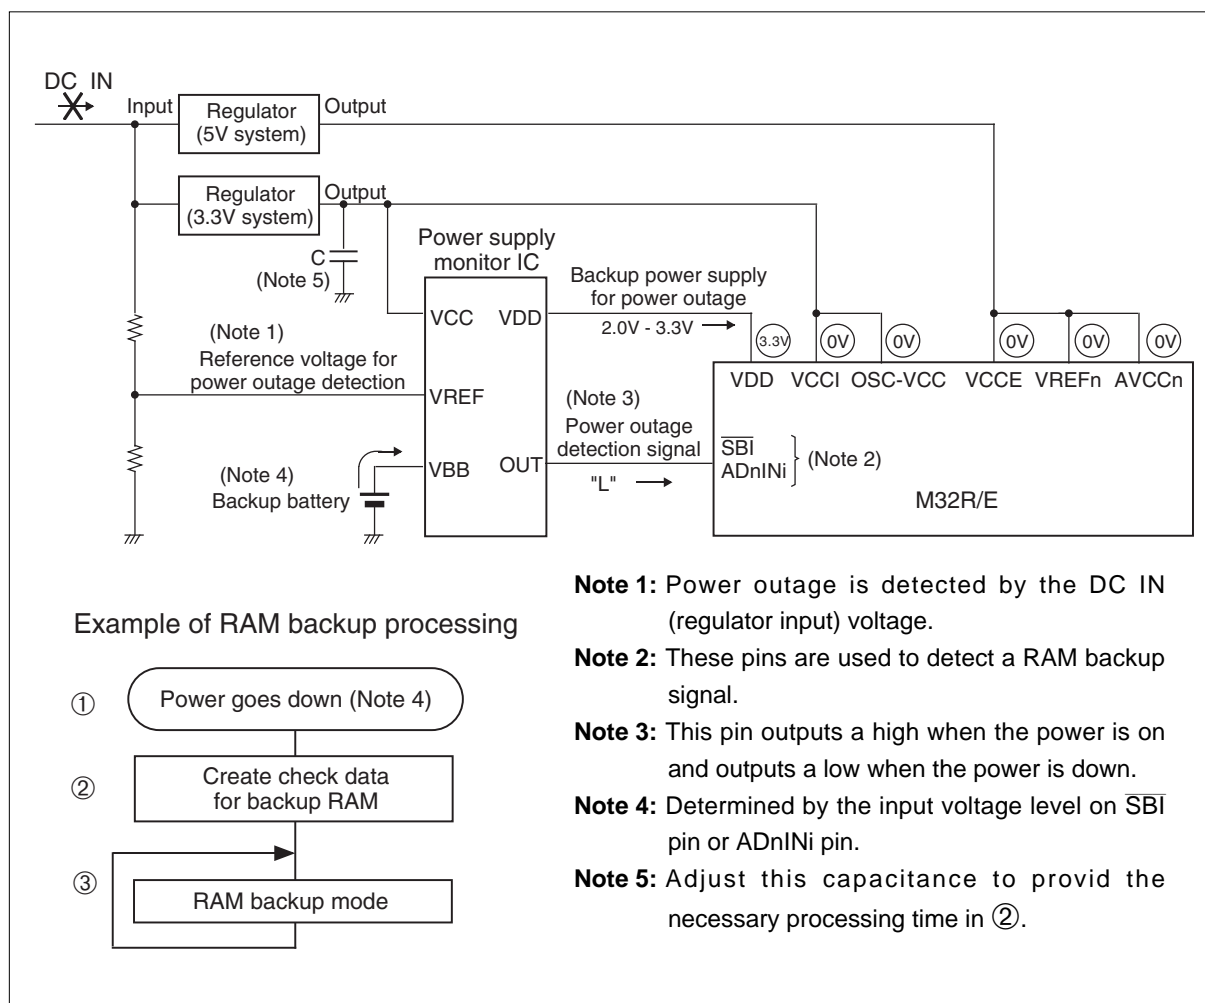

Figure 17.2.3 RAM Backup State at Power Outage
Shown in Figure 17.2.3 is the power outage RAM backup state of the M32R/E. When the power supply goes down, the power supply monitor IC starts feeding current from the backup battery to the M32R/E. Also, the power supply monitor IC's power outage detection pin outputs a low, causing the  $\overline{\text{SBI}}$  pin or ADnINi pin input to go low, which generates a RAM backup signal (① in Figure 17.2.3). Whether the power is down or not must be determined with respect to the DC IN (regulator input) voltage in order to allow for a software processing time at power outage.
- (1) Create check data to verify after returning from RAM backup to normal mode whether the RAM data has been retained normally (② in Figure 17.2.3).
When the power supply to VCC goes down after settings in (1), the voltage applied to the VDD pin becomes 2.0-3.3 V and voltages applied to all other pins drop to 0 V, and the M32R/E thereby enters RAM backup mode (③ in Figure 17.2.3).
Due to settings in (1) to (3), the voltage applied to the VDD pin becomes  $3.3 \text{ V} \pm 10\%$  and voltages applied to all other pins drop to  $0 \text{ V}$ , thus placing the M32R/E in RAM backup mode (④ in Figure 17.2.3).